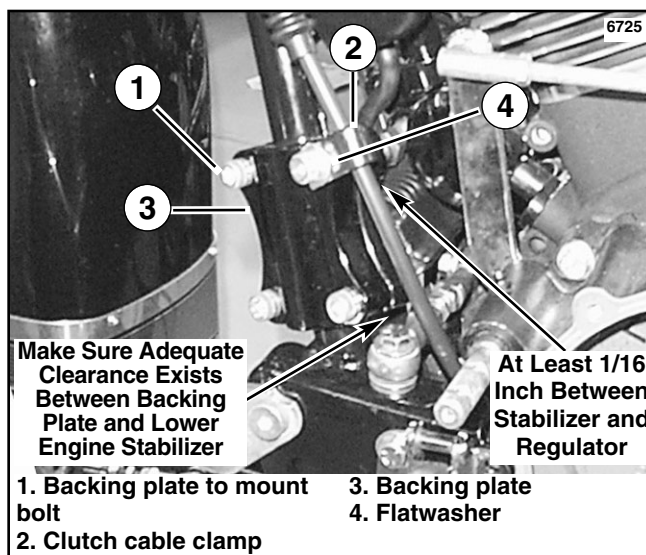

Figure 10. Install Backing Plate To Stabilizer (Left Side)
4. See Service Parts Illustration and Figure 10. Obtain the Backing Plate, four Bolts (48), Flatwasher (53) and Clutch Cable Clamp (42) from kit. Install backing plate using four bolts however use fourth bolt in upper right hand side with clamp and secure clutch cable in place as shown. Tighten bolts finger tight.